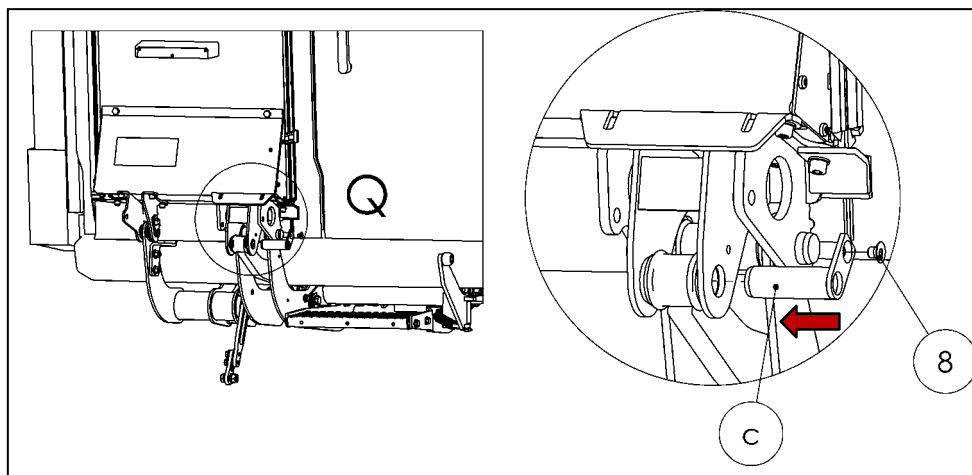

Figure 61
- Mount the screw (8) from the accessories kit to secure the pin (Fig. 61).